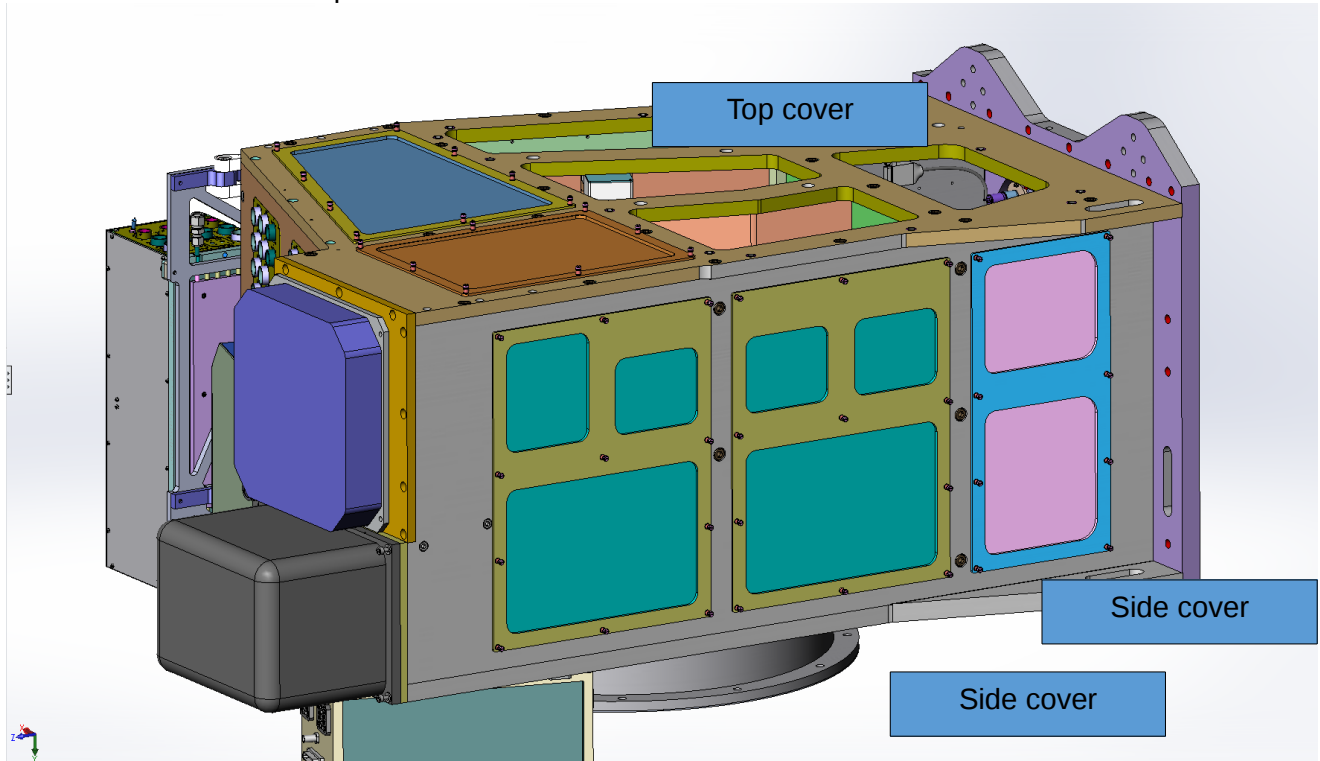

Figure 1.3. Removal of the SAM top cover and side covers.
- Remove the housing top cover shown in Fig. 1.3. The cover has thumbscrews so no tool is needed for this operation.
- Remove the housing side covers indicated in Fig. 1.3. The covers have thumbscrews so no tool is needed for this operation.